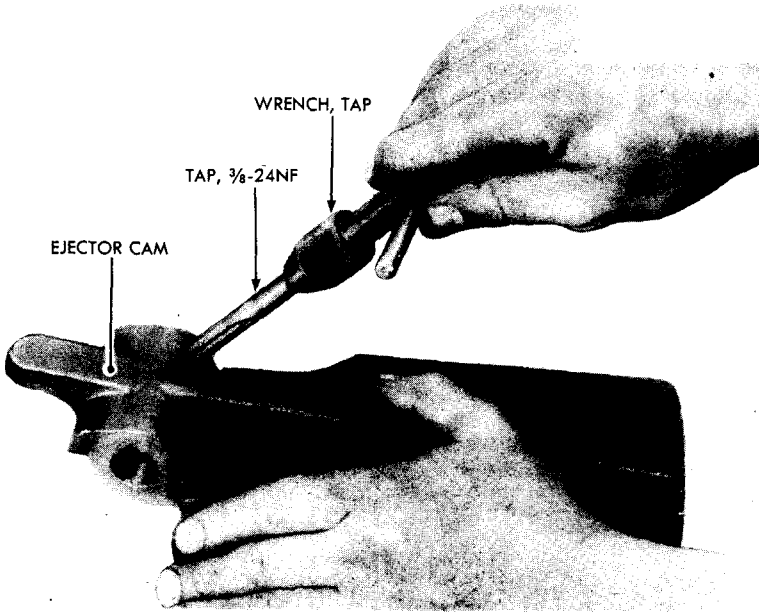
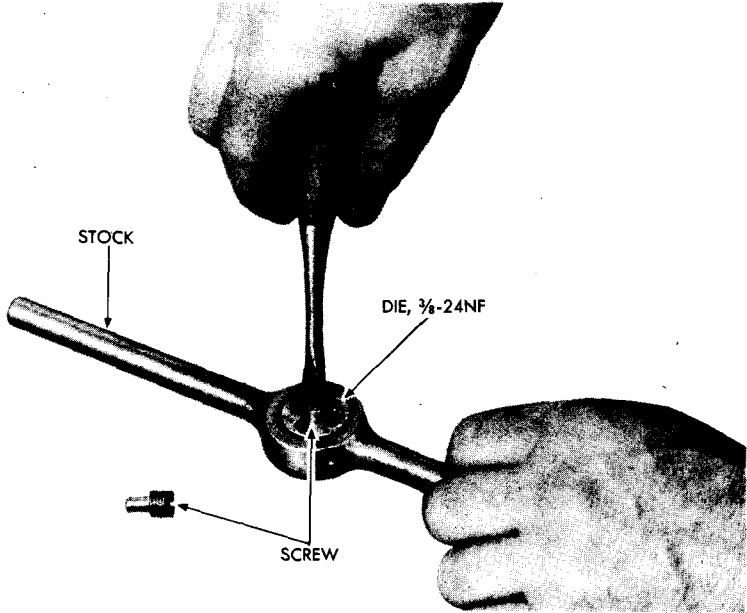

Figure 41 – Removing Staking Burs from Ejector Cam RA PD 47121
Figure 42 – Recutting Thread on Ejector Cam Screws RA PD 47095
(6) Install the set screw. Then remove screwdriver bur from screw.
h. Examine screw holes in ejector cam. If staking has burred or mutilated the threads, clean up threads (fig. 41). Examine screws. If staking has burred the threads, recut threads (fig. 42). If staking has badly mutilated the threads, replace the screw.